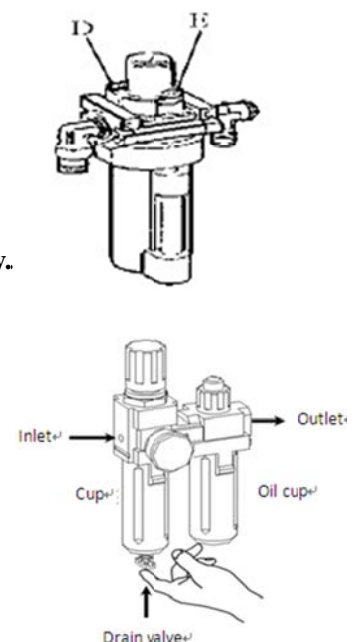

Fig21-1
- As shown in Figure 21-1, when you found there are some water in the cup, push up the drain valve to drain away water with your fingers; loosen your fingers after drained water, drain valve can be automatic closed under the action of the spring.